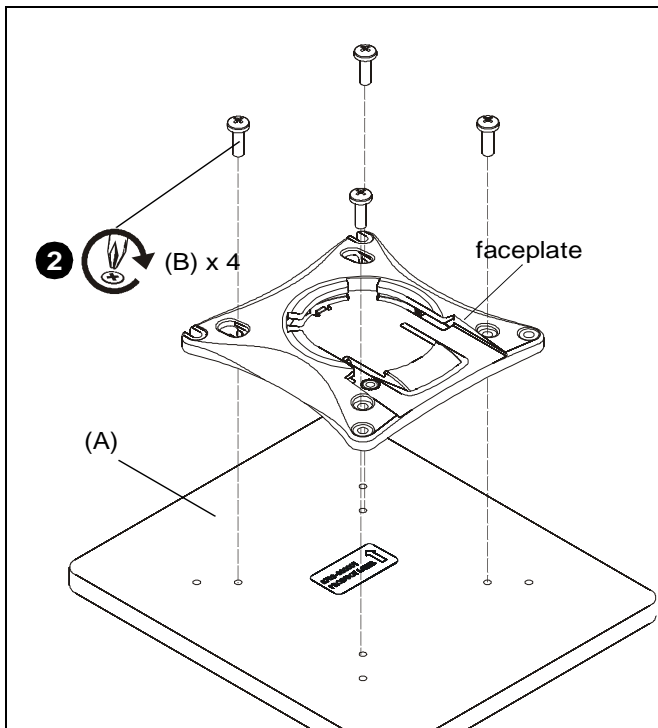

Figure 2
2. Use four M4x12mm Phillips pan machine screws (B) to connect Kontour faceplate to KRA400 adapter. (See Figure 2)